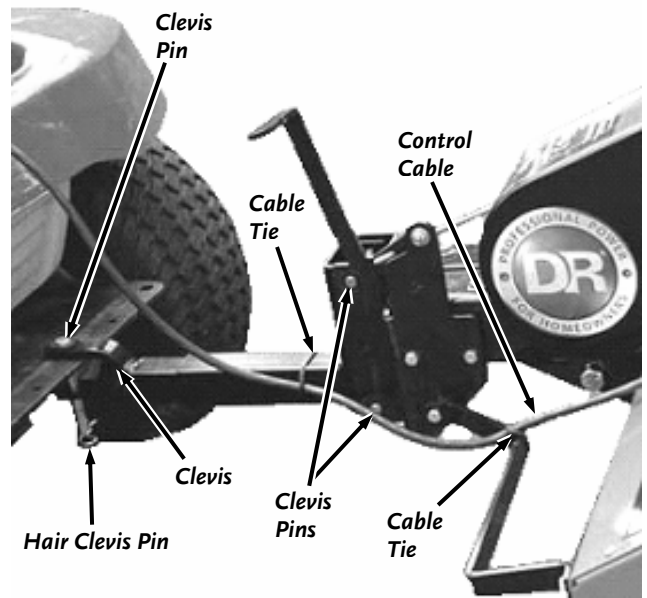

Figure 11
NOTE: The height of machine is adjustable by +/- 3" by removing the two (2) Clevis Pins (**Figure 11**) and re-positioning the Hitch up or down. The lower the front of the frame, the deeper the Tine depth for tilling, but you will lose transport height.
3. Remove the Hair Clevis Pin and Clevis Pin from the Clevis. Back the Tow Vehicle so the Hitch on the Tow Vehicle goes into the Clevis. Set the Parking Brake on the Tow Vehicle and reinstall the Clevis Pin and Hair Clevis Pin (**Figure 11**).